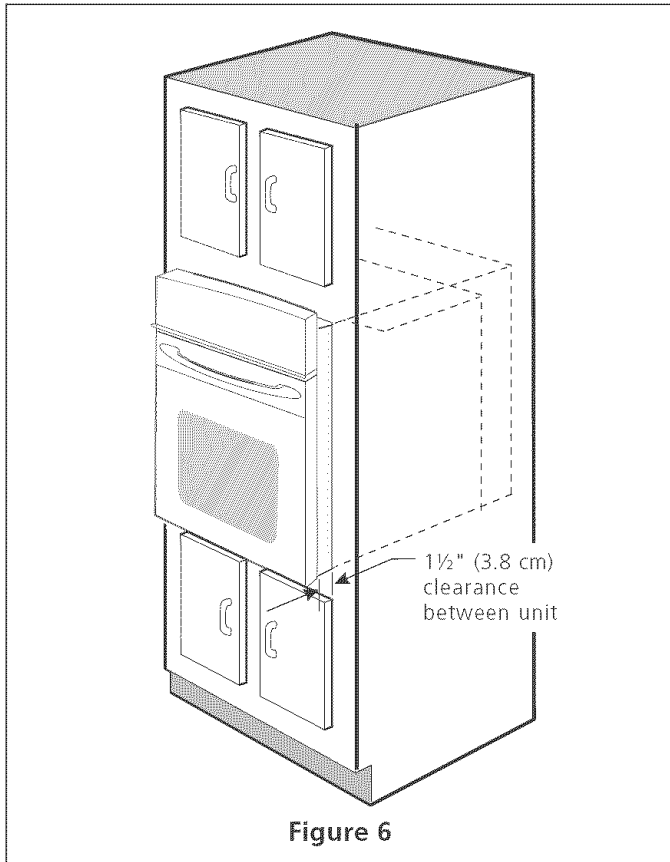

Figure 6
3. Insert the oven into the cabinet opening. Slide oven inward leaving 1½" (3.8 cm) clearance between the oven and front of cabinet (see Figure 6). Pull the armored cable through the hole for it in the cabinet and toward the junction box while moving the appliance inward.